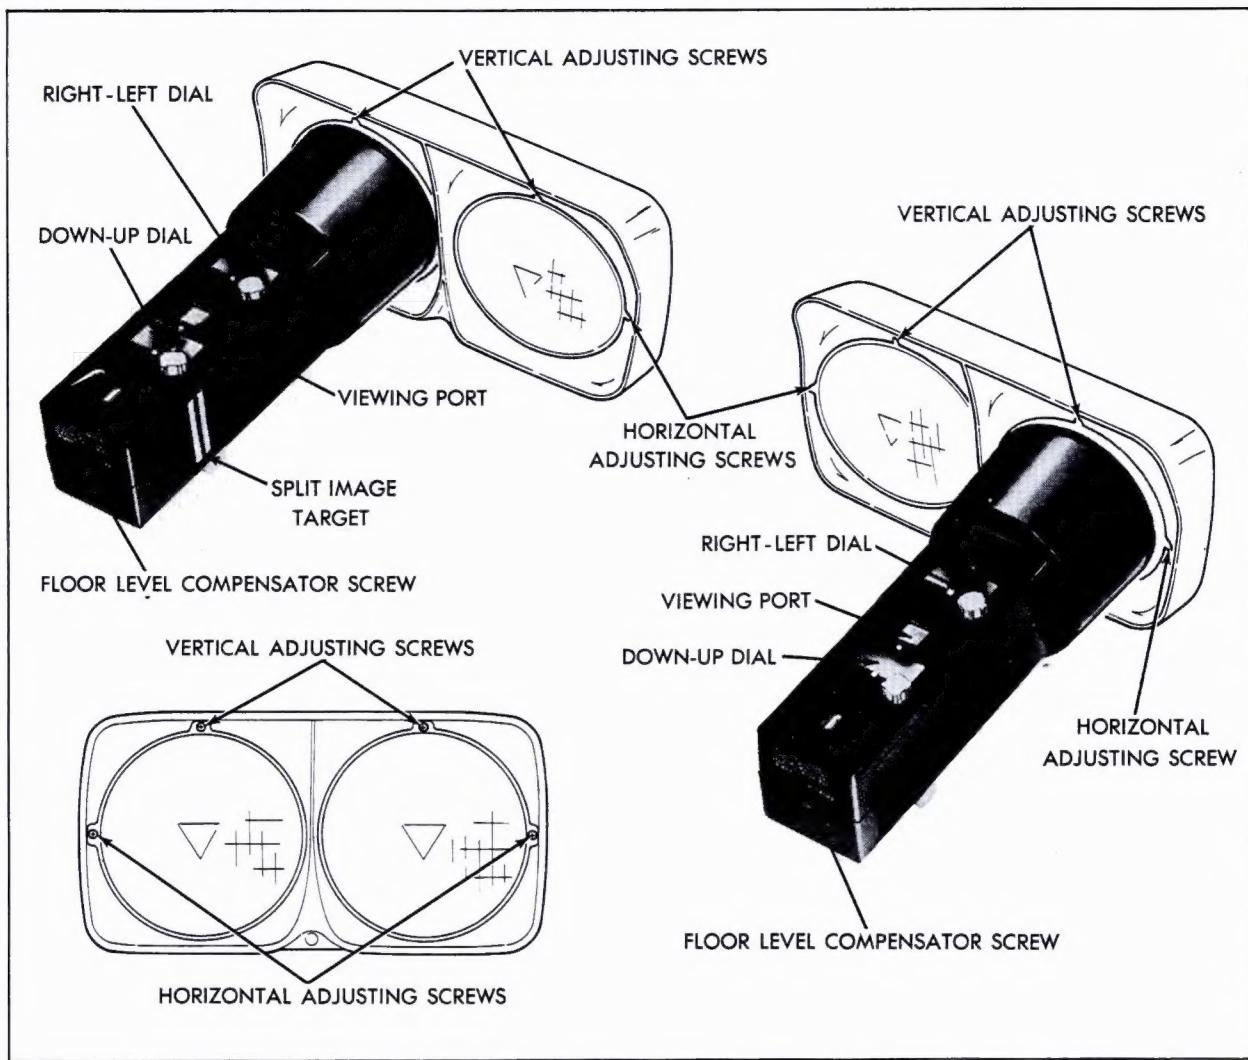

Fig. 12-8 Horizontal and Vertical Adjustments
1. Set "Right - Left" dial on zero, Fig. 12-8.
- Turn headlights vertical aiming screw counterclockwise until bubble is on car side of center. Turn screw clockwise until bubble is centered for correct aim and elimination of backlash, Fig. 12-8. Repeat horizontal and vertical adjustments on other headlight aimers.